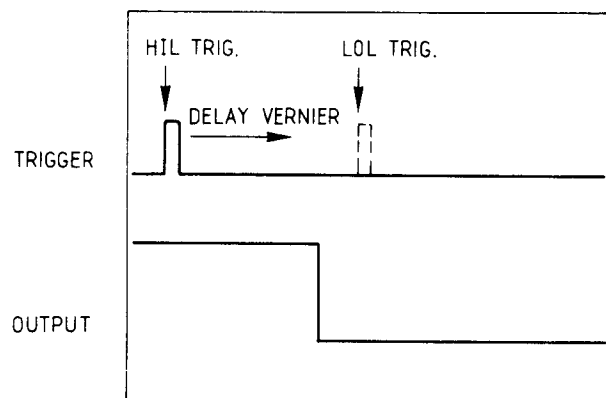

Figure 4–18. HIL, LOL Measurements
6. For measuring LOL set pulse delay vernier cw till the trigger is in the low level area (see figure 4–18). Set 8160A LOL to -0.1 V and HIL to 0 V. Set EXT INPUT IMP. back to 50Ω . Repeat table 5–5 for same values but LOL.
6. Measure pulse top and bottom levels by changing pulse generator delay vernier (see fig. 4—18). Levels should be within limits of table 4—6.